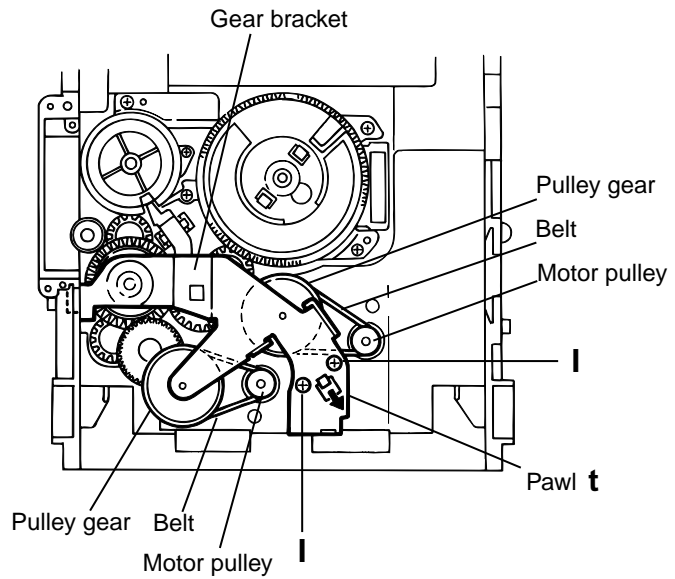

Fig.18
4. While turning the cam gear "q", align the Paul "s" position of the select lever to the notch position(Fig.18) on the cam gear "q".
5. Remove the four screws **H** retaining the cam unit(cam gear "q" and cams R1/R2 assembly)(See Fig.18).
(See Fig.18~21)**
(See Fig.18).
4. Remove the belts respectively from the right and left actuator motor pulleys and pulley gears(See Fig. 18).